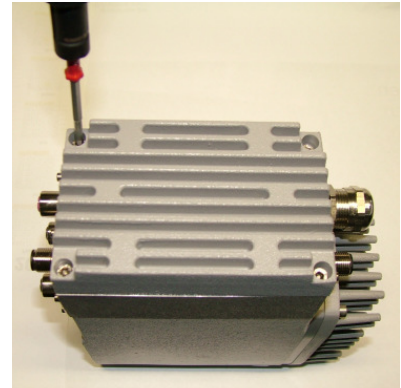
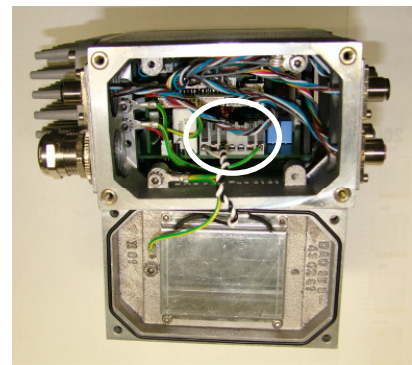
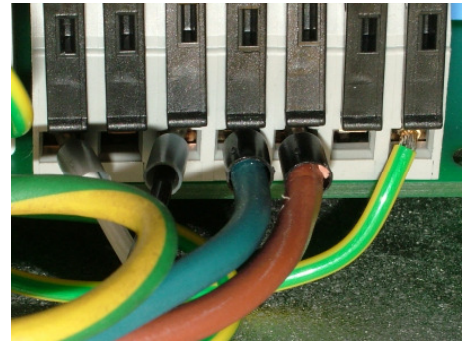
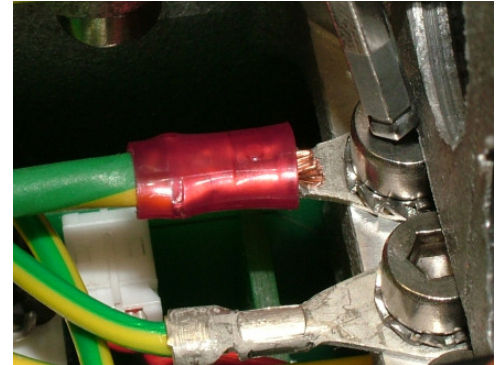

Figure 2.3.1: Lifting the cover
Figure 2.3.2: MDA opened
Figure 2.3.4: terminal block of the MDA
Figure 2.3.5: connecting PE of mains
For the version according to **ATEX category II 3D**, the drive has to be opened when connecting the 230V mains supply (refer to figure 2.3.1). For this, loosen the 4 screws at the cover with an Allen key and carefully lift the cover. The internal brake resistor is fitted within the cover (refer to figure 2.3.2).
- Loosen screws and carefully lift the cover (refer to figures 2.3.1 and 2.3.2, cover may not be removed completely since the internal brake resistor and potential compensation remain connected).
- Strip wires at a length of 15mm respective 10 mm (PE); for stranded wires use end-sleeves according to DIN 46228. One wire for each connection is permitted only.
- The PE of mains supply has to be fixed to the PE-terminal block (refer to figure 2.3.5).
- Connect cables according to order-related wiring diagram. The wires of the voltage supply are directly wired to the terminal block of the power board (refer to figure 2.3.4)
Figure 2.3.4 is the enlarged section (white circle) of figure 2.3.2
The PE of mains supply has to be fixed to the terminal supply (refer to figure 2.3.5).